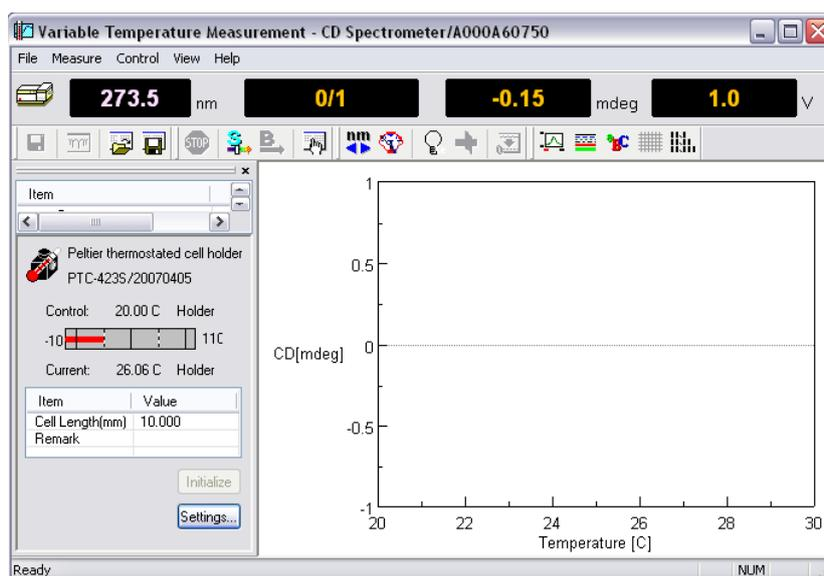
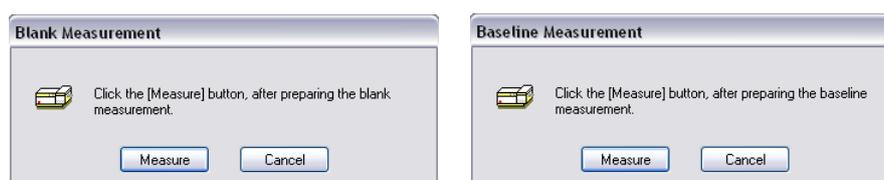

Figure 4.1 [Temperature Variable Measurement] window
Figure 4.5 Message boxes for starting [Blank/Baseline] measurement
- (3) Select [PTC-423S] from the [Control] menu or click the <Settings...> button of Figure. 4.1. The following dialog box appears.
- (1) Click the  button or select [Parameters...] from the [Measure] menu of Figure. 4.1. The following dialog box appears. The parameters setting dialog box is composed of the [Temperature], [General], [Control], [Information] and [Data] dialog boxes. Clicking a tab at the top of the dialog box changes the dialog box. Refer to Section 3.1.1 for descriptions of these functions.
CASE I: The dialog depicted on the left side of Figure. 4.5 appears following the case using the parameters depicted in Section 4.2.3. (when the [Blank] menu was selected in the [Control] - [Parameters] dialog box). Clicking <Measure> starts the [Blank] measurement which is a one-point measurement. During measurement,  becomes inactive, as indicated by the gray icon . (or selecting  [Cancel] - [Measure] from the [Variable Temperature Measurement] window (see Figure. 4.1) if you need to perform an emergency stop.
CASE II: The dialog depicted on the right side of Figure. 4.5 appears when [Baseline] is selected, which is in the [Parameter] - [Measure] menu of [Variable Temperature Measurement] window (see Figure. 4.1). Clicking the <Measure> button starts the [Baseline] measurement and the following dialog appears.